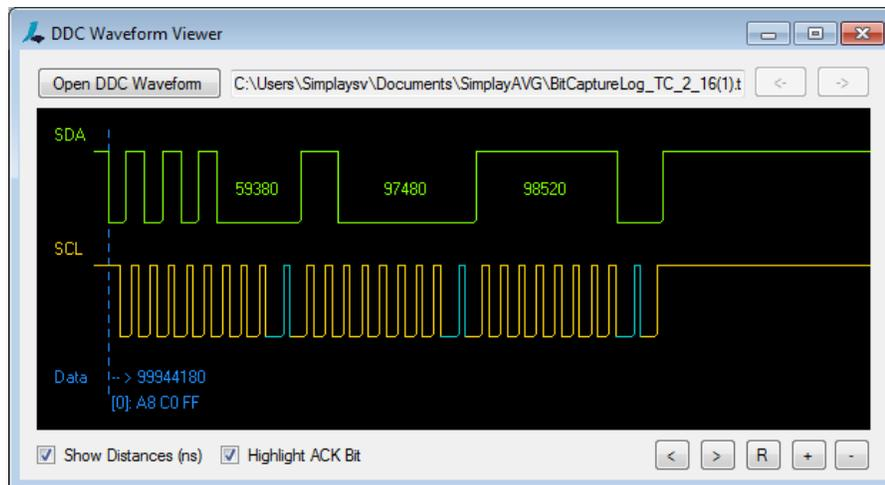

Figure 4.8. Sample DDC Waveform
- Following is a sample DDC Waveform (Figure 4.8).